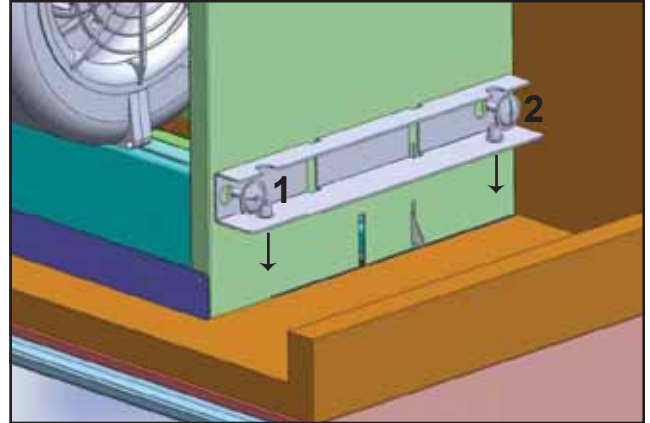

Fig.6
5) Secure upper brackets to left and right sides of hood body by using (2) 3/16 x 3/8" screws for each bracket. Fig.6. Make sure the (2) captive nut screw holes on the bracket are facing downward. Note: Due to limited workspace in 30" cabinets you will need to use a right angle or 2" long Philips head screwdriver.